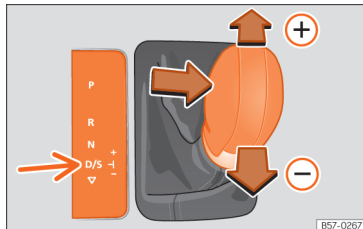

Fig. 102 Lever in the Tiptronic position
- Move the lever forwards  or backwards  to change up or down a gear **»» Fig. 102**.